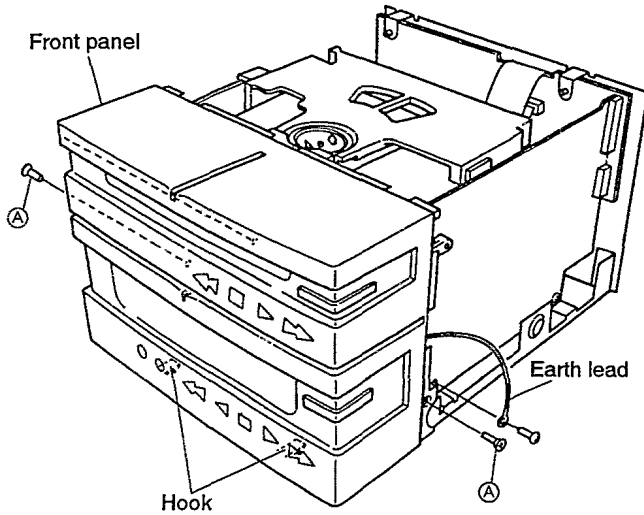

Fig 5-1
2. Remove two screws (A) which holding the front panel, a earth lead (one screw) from the front panel and the binder which holds lead wires. (See Fig. 5-1.)